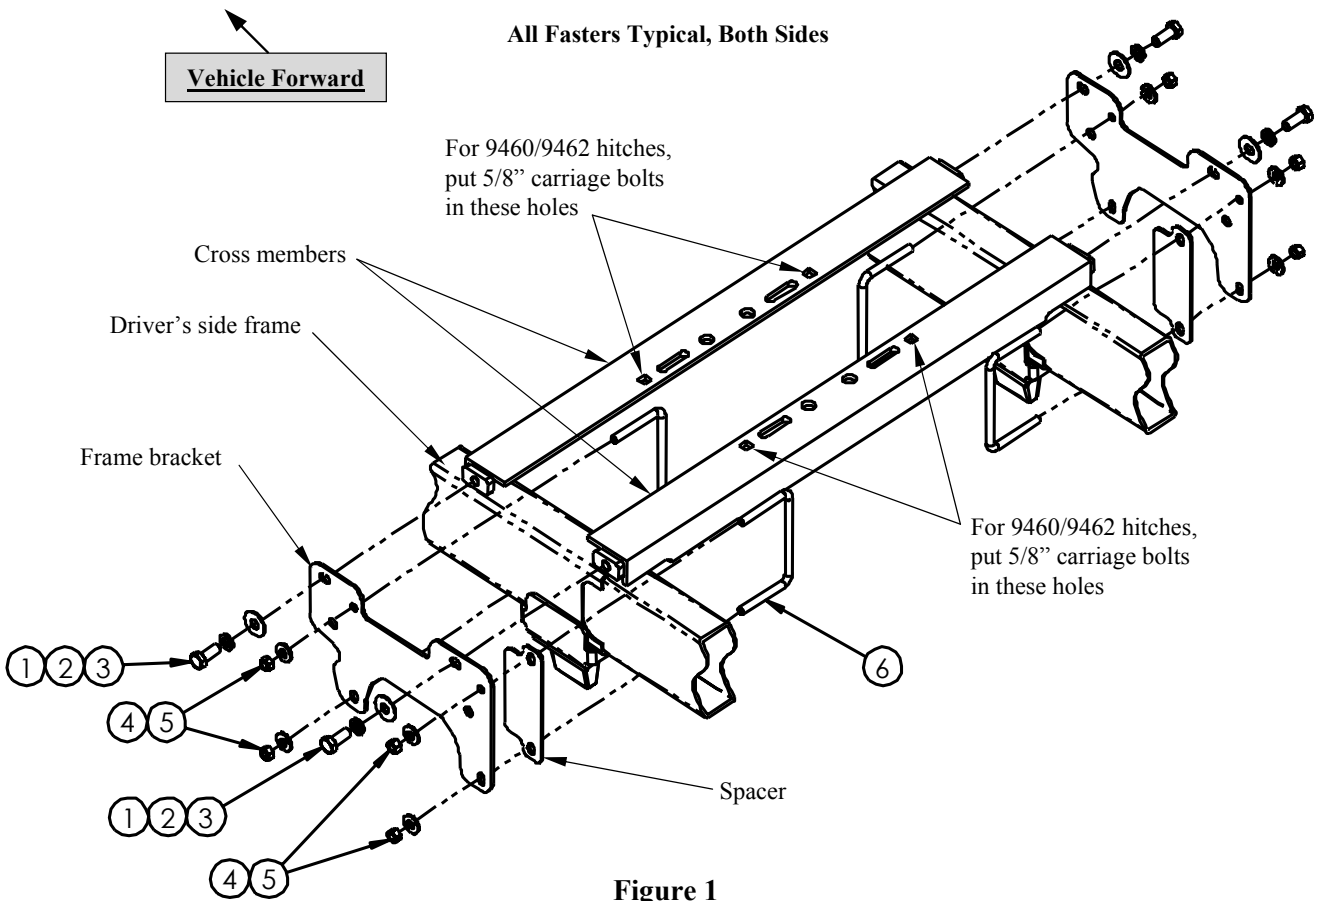
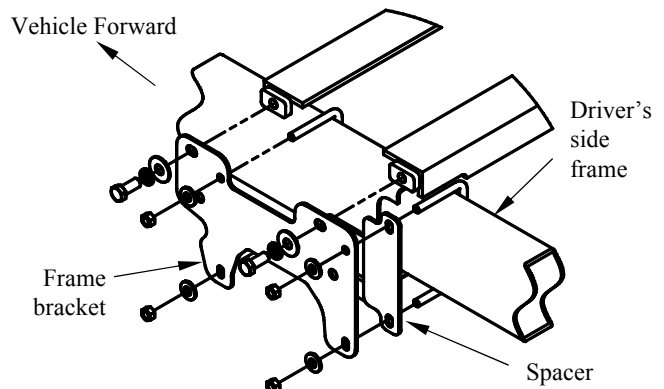

Figure 1
Figure 3
3. Place 5/8" GR8 carriage bolts from the 9460/9462 fastener kit into the square holes on the cross members from the top pointing towards the ground. See Figure 1.
4. Slide the hitch cross members through the notch in the sheet metal flange. Figure 1 shows the cross members and the direction to orient each one.
5. Line up the mounting holes on the frame brackets with the threaded holes on the ends of the cross members. Loosely attach frame brackets to rails with 5/8" x 1-1/2" bolts, lock washers and flat washers as shown in Figure 1.
6. Use the u-bolts to attach the frame brackets to the frame as shown in Figure 1. Put spacer on rear u-bolt between frame bracket and frame, as shown in Figure 3. It might be necessary to loosen the wire harness from the inside of the driver's side frame in order to position the u-bolts. Loosely fasten the u-bolts to the frame brackets using the 1/2" nuts and conical washers.
- Slide the hitch cross members through the notch in the sheet metal flange. Figure 1 shows the cross members and the direction to orient each one. The front of the forward cross member should be slid as far forward as the forward bed support will allow.
- Line up the mounting holes on the frame brackets with the threaded holes on the ends of the cross members. Loosely attach frame brackets to rails with 5/8" x 1-1/2" bolts, lock washers and flat washers as shown in Figure 1.
- Use the u-bolts to attach the frame brackets to the frame as shown in Figure 1. It might be necessary to loosen the wire harness from the inside of the driver's side frame in order to position the u-bolts. Loosely fasten the u-bolts to the frame brackets using the 1/2" nuts and conical washers.